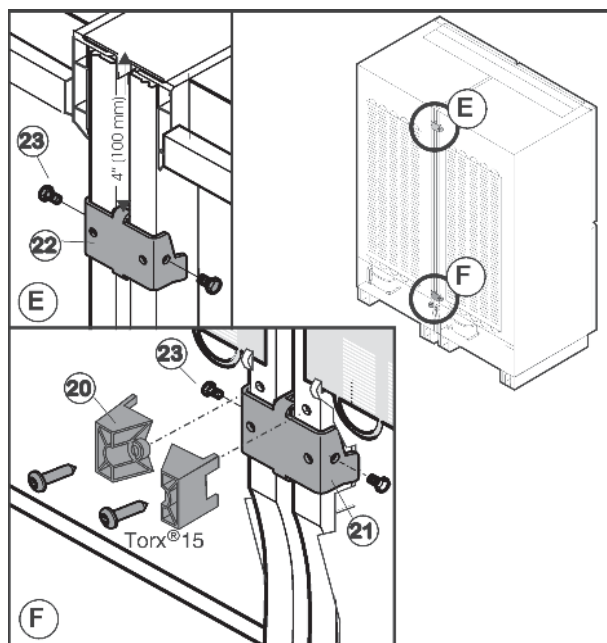

Fig. 45
- Remove the spacers Fig. 45 (20) from the lower reverse side of the appliances.
- Position the upper connecting piece and Fig. 45 (23) screw Fig. 45 (21) on from the side.
- Position upper connecting piece Fig. 45 (22) and screw Fig. 45 (23) on from the side.
- Tighten the screws Fig. 45 (23).